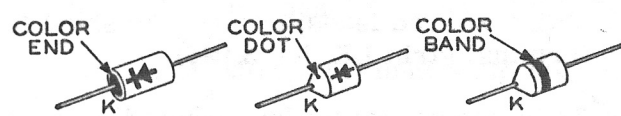

Figure 10
- (✓) Connect a #20 bare wire from rectifier RG, lug 1 (~~S-1~~) to terminal strip LP, lug 1 (NS).
- (✓) Connect the positive (+) lead of a 40  $\mu$ fd, 350 volt capacitor to terminal strip LC, lug 2 (NS). Connect the negative (-) lead to terminal strip LE, lug 2 (NS). Position the capacitor against rectifier RA with the "+" end even with the right side of RA.
- (✓) Connect an 8" length of orange wire from terminal strip LB, lug 2 (S-1) to terminal strip LG, lug 3 (NS).
- (✓) Connect the positive (+) lead of a 40  $\mu$ fd, 350 volt capacitor to terminal strip LD, lug 2 (S-1). Connect the negative (-) lead to terminal strip LB, lug 1 (NS).
- (✓) Connect a 7-1/2" length of red wire from terminal strip LA, lug 2 (NS), to socket SC, through pin 6 (NS) to pin 5 (NS). Now solder pin 6.
- (✓) Connect a 2000  $\Omega$ , 7 watt resistor from terminal strip LC, lug 2 (NS) to terminal strip LB, lug 1 (NS).
- (✓) Connect the lead at the marked end of a silicon diode to terminal strip LA, lug 2 (S-2). Connect the other lead to terminal strip DA, lug 1 (NS). Refer to Pictorial 4 and Figure 10.
- (✓) Connect the lead at the marked end of a silicon diode to terminal strip DA, lug 2 (NS). Connect the other lead to terminal strip LB, lug 1 (S-3).
- (✓) Connect a silicon diode to terminal strip DA, between lugs 2 (S-2) and 3 (NS). Connect the lead at the marked end to lug 3.
- (✓) Connect the lead at the marked end of a silicon diode to terminal strip LC, lug 2 (S-3). Connect the other lead to terminal strip DA, lug 6 (NS).
- (✓) Connect a #20 bare wire from terminal strip LE, lug 2 (S-2) through pins 7 and 4 on socket SD (NS) to terminal strip LG, lug 1 (NS). Now solder pins 7 and 4 on socket SD.
- (✓) Connect the positive (+) lead of a 40  $\mu$ fd, 350 volt capacitor to terminal strip LH, lug 2 (S-1). Connect the other lead of the capacitor to terminal strip LK, lug 2 (NS).
- (✓) In the same manner connect the positive (+) lead of a 40  $\mu$ fd, 350 volt capacitor to LI, lug 2 (S-1) and the negative (-) lead to LL, lug 2 (NS).
- (✓) Connect the positive (+) lead of a 40  $\mu$ fd, 350 volt capacitor to LJ, lug 2 (S-1) and the negative (-) lead to LM, lug 2 (NS).
- (✓) Connect a 3.3 K $\Omega$  (orange-orange-red) 2 watt resistor from terminal strip LH, lug 1 (S-2) to terminal strip LK, lug 1 (NS).